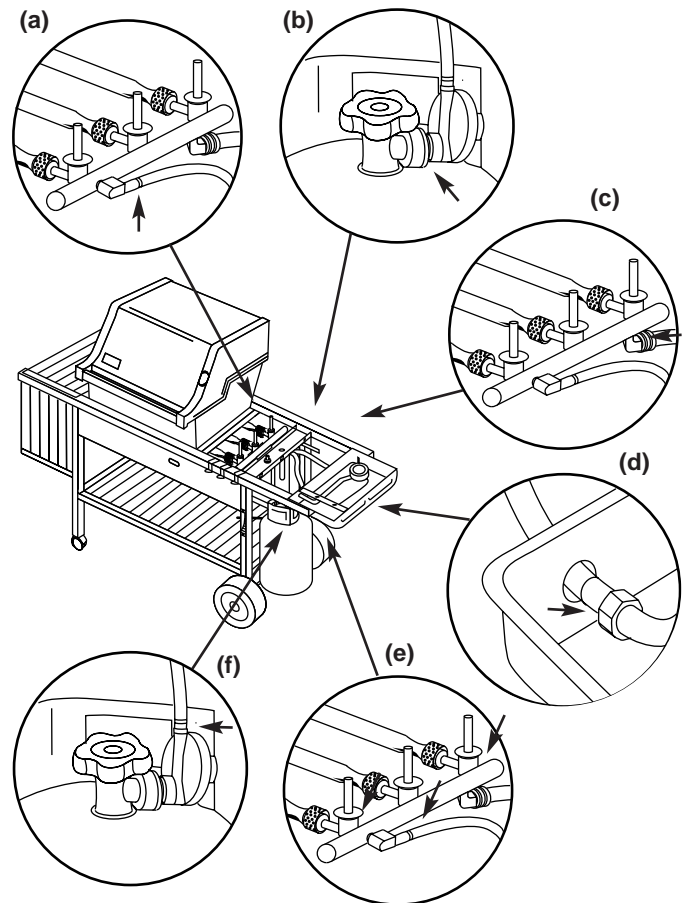

Figure 10
- Hose to manifold connections. Figure 10 (a).
- Regulator to tank connection. Figure 10 (b).
- Manifold to side burner hose connection. Figure 10 (c).
- Side burner hose to side burner connection. Figure 10 (d).
- Valves to manifold connection. Figure 10 (e).
- Hose to regulator connection. Figure 10(f).